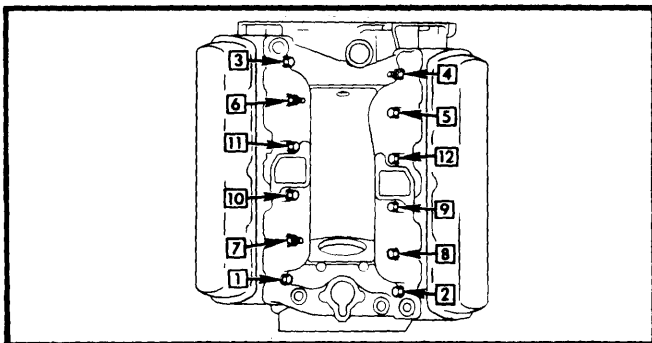

Fig. 1 Intake Manifold Tightening Sequence
2) Dip manifold bolts in oil and tighten in two steps. See Fig. 1.